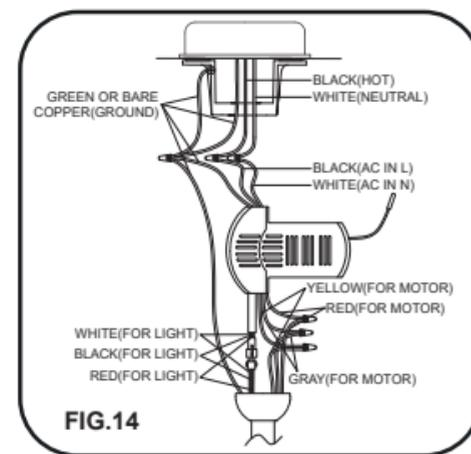

FIG.14
Step 2. Receiver to House Supply Wires Electrical Connections: Connect the WHITE wire (Neutral) from the outlet box to the WHITE wire marked 'AC in N' from the receiver. Connect the BLACK wire (Hot) from the outlet box to the BLACK wire marked 'AC in L' from the receiver. Secure all wire connections with the plastic wire nuts provided. (FIG.14)
Step 3. If your outlet box has a GROUND wire (Green or Bare Copper) connect this wire to the Hanger Ball, Hanger Bracket and Receiver Ground wires. If your outlet box does not have a Ground Wire, then connect the Hanger Ball, Hanger Bracket and Receiver Ground Wires together. Secure wire connection with the plastic wire connector provided. (Fig.14)